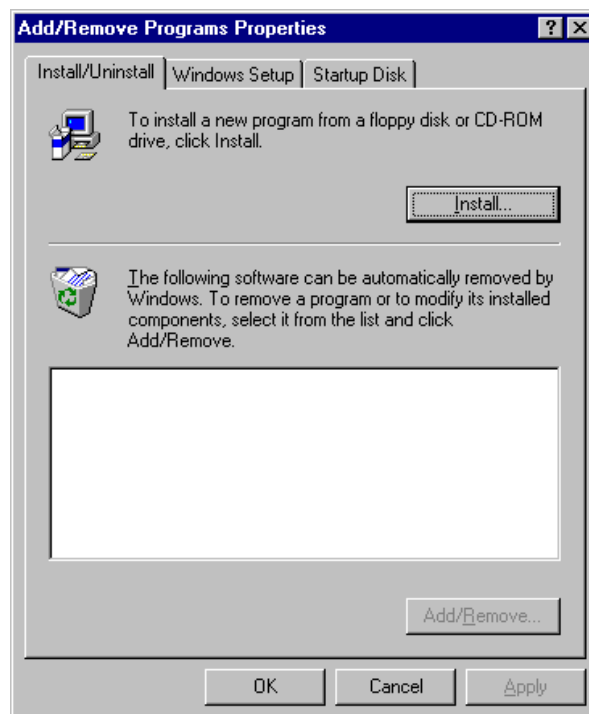

Fig. 9.3 [Add/Remove Programs Properties]
- (2) Double-click [Add/Remove Programs] in the [Control Panel] window. Fig. 9.3 shows the [Add/Remove Programs Properties] window.